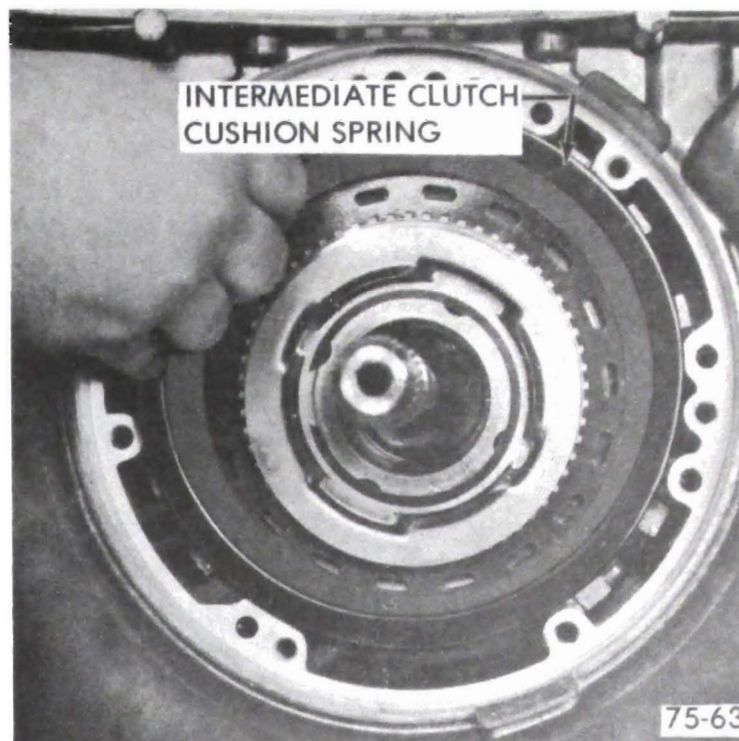

Figure 75-93
1. Remove intermediate clutch cushion spring. See Figure 75-93.